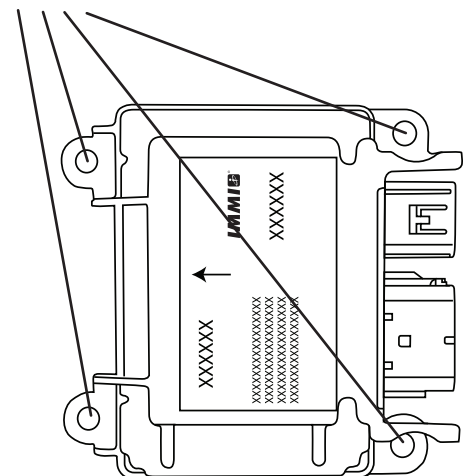

Figure 1
See Figure 1.
6. Torque each mounting bolt (4) on sensor to 5 to 6.8 ft.-lbs. (6.8 to 9.2 N-m) **See Figure 1**.